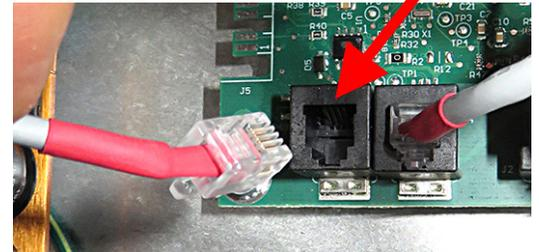

Figure 7
9. Disconnect the other end of the cable removed in the previous step from the FIB (Filtration Interface Board) (see Figure 7).